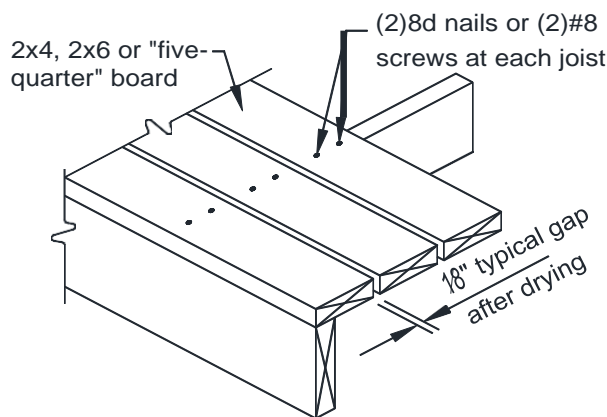

FIGURE 1: TYPICAL DECKING
- Wood decking shall be attached per FIGURE 1. If installed wet, place decking with no gap so after drying a 1/8-inch gap is created.